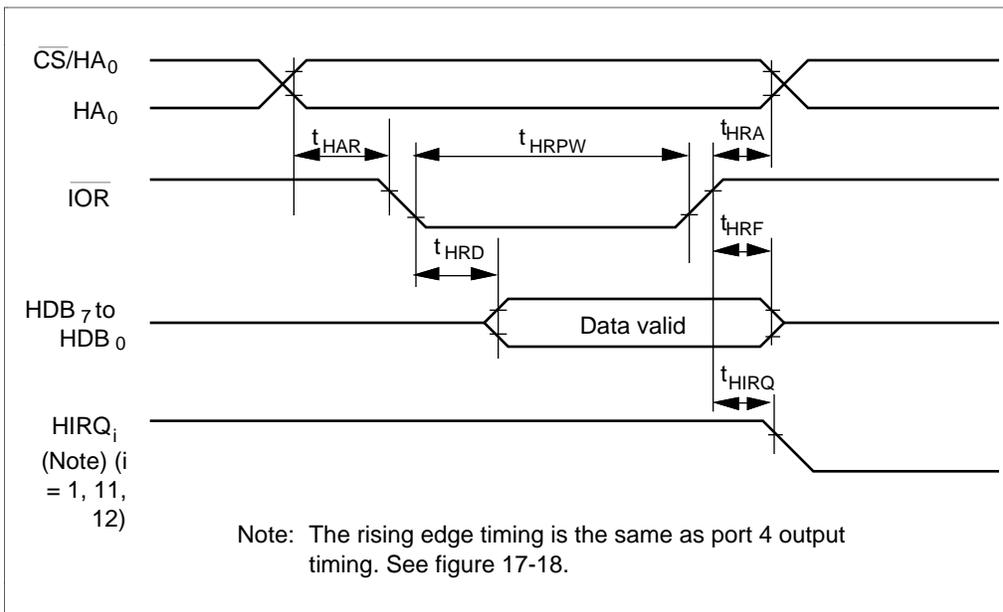

Figure 17-19 Host Interface Read Timing
- 17.3.8 Host interface Timing Figures 17-19 to 17-20